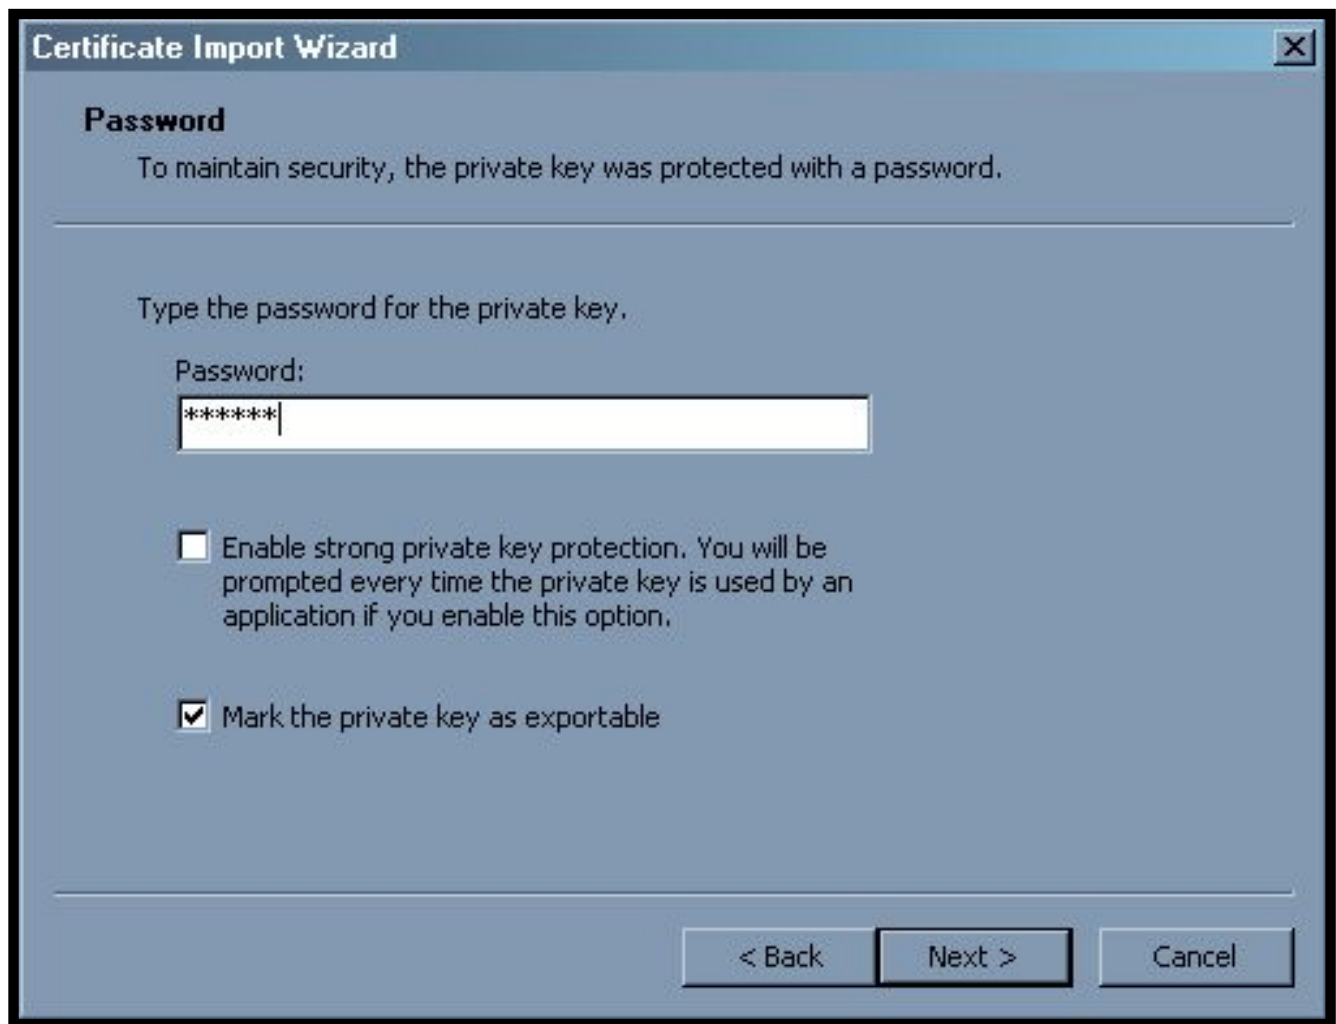

Figure 4.2-4: Password Screen
5. On the "Password" screen, enter the password used in step 7 in section 4.1 above. Select the "Mark the private key as exportable" check box. **Verify the "Enable strong private key protection" check box is not selected.** The screen should be similar to Figure 4.2-4 below. Click the *Next* button.